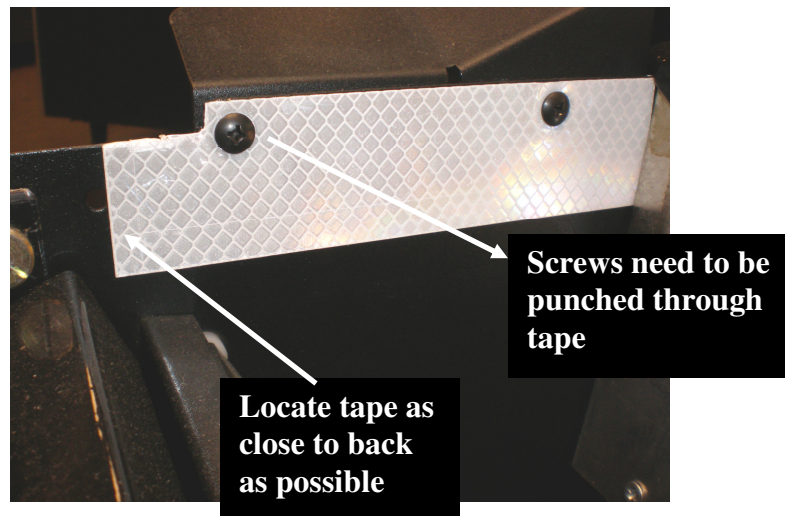

Figure 7 (Typical representation)
7) Remove two screws holding deflector. Install reflective tape to opposite side of delivery bucket of sensor bracket over holes from screws removed. Punch screws through reflective tape. Reinstall screws holding deflector. **Note: When installing reflective tape. Position tape as close as possible to rear part of delivery bucket.** (Figure 7)